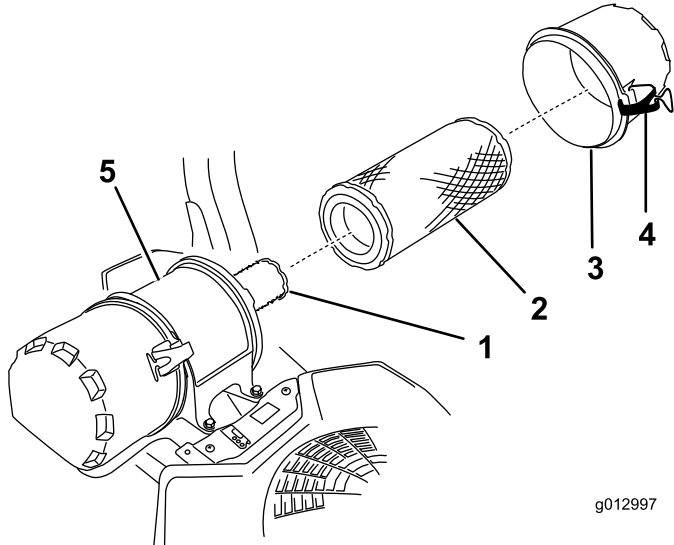

Figure 46
6. Release the latches on the air cleaner and pull the air cleaner cover off the air cleaner body (Figure 46).
- Gently slide the primary filter out of the air cleaner body (Figure 46).
- To replace the safety filter, carefully slide it into the filter body (Figure 46).
- Carefully slide the primary filter over the safety filter (Figure 46).
- Install the air cleaner cover and secure the latches (Figure 46).